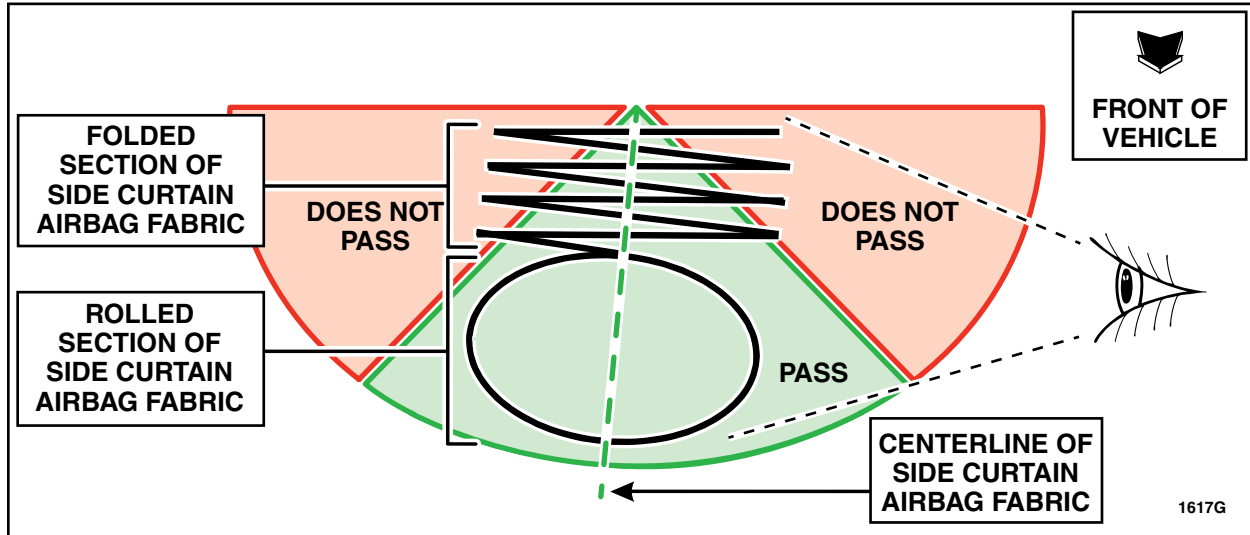

FIGURE 1
2. Inspect the driver and passenger side curtain airbag fold orientation starting at the B-pillar and ending at the rear of the vehicle. When properly positioned, the centerline of each side curtain airbag will have a rolled section of side curtain airbag fabric that should be positioned below the folded section. The side curtain airbag fabric orientation may be positioned anywhere within the acceptable (**PASS**) range illustrated in Figure 1.
The side curtain airbag **PASSES** inspection if the centerline of the rolled and folded sections is within the acceptable (**PASS**) range. See Figure 1 and 2a. If both the driver and passenger side curtain airbags pass inspection, the repair is complete. Install the rear headliner sections. Please follow the WSM procedures in Section 501-05 (rear headliner).
The side curtain airbag **DOES NOT PASS** inspection if the centerline of the rolled and folded sections is **not** within the acceptable (**PASS**) range at any point rearward of the B-pillar. See Figure 1 and 2b. If the side curtain airbag does not pass inspection at any point rearward of the B-pillar, proceed to the Side Curtain Airbag Adjustment Procedure on Page 3.